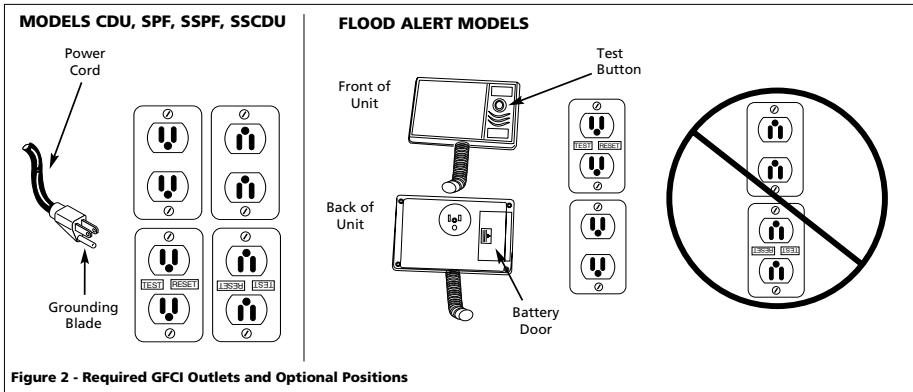

Figure 2 - Required GFCI Outlets and Optional Positions
FLOOD ALERT MODELS (SEE FIGURE 2)
- A ground fault circuit interrupter (GFCI) is required (See Figure 2).
- Insert the pump power cord plug directly into outlet (See Figure 2).
- Unit should be plugged into outlet as shown in Figure 2. Do NOT plug unit in upside down. Doing so may cause pump to unplug. If your receptacle is upside down, have a qualified electrician reposition the outlet before installing the unit.